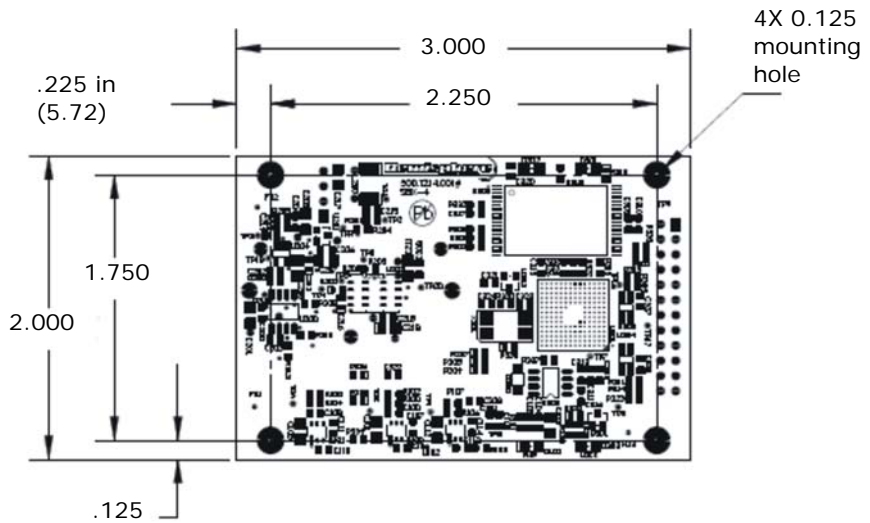

Figure 1-1. Top-side view of SBX-4
Figure 1-1 to 1-3, on pages 6 to 8, provides the physical layout of the SBX-4 beacon receiver, including dimensions and key components.
**Note:** Figure 1-1 to Figure 1-3's dimensions are in inches.